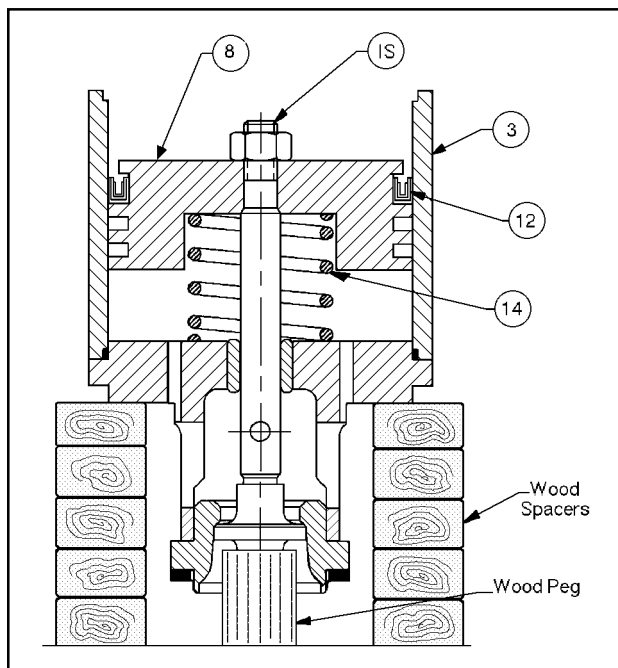

FIGURE 4
30. Place TFE ring gasket (13) onto upper side of bonnet (2) and onto shoulder.
31. Place a thin film of lubricant onto the cylinder (3) inside wall at the wear points of the piston seal (12). Wipe excess lubricant away with a clean, dry cloth.
32. Place cylinder (3) into a strap support and lift with an overhead hoist. Swing cylinder (3) over threaded end of plug-stem assembly (7) and lower into the shoulder of bonnet (2), taking care to protect ring gasket (13) of previous article 30., above. Align match marks and apply duct tape to hold cylinder (3) to bonnet (2).
33. Place piston (8) with recess for piston spring (14) face down on flat surface.
34. Position a small section of the seal (12) circumference around the top recess of the piston (8). Apply an equal amount of thumb pressure on opposing sides of the seal (12) as the seal (12) is pressed around and over the top of the piston (8) into the recess. **NOTE:** *Install seal (12) with opening of U-Cup facing upwards.*
35. Place piston spring (14) into recess of piston (8).
36. Rotate stem (7) until the tool of previous article 13., this subsection, can be inserted through hole of stem (7). Leave the tool in the hole.
37. Carefully slide piston (8) with captured piston spring (14) into cylinder (3). Insert a rod or similar tool into the center hole of the piston (8), and simultaneously lift and move into the cylinder (3) deeper. Using fingers of one hand, push the plug-stem assembly (7) together from the plug (7) end. Lift piston (8) onto threaded portion of plug-stem assembly (7) as far as possible, removing tool when necessary. Place hand into cylinder (3) and push the piston (8) until the piston spring (14) begins to compress.
38. Place temporary eyenut onto threaded end of plug-stem assembly (7). Finger-tighten eyenut until piston spring (14) is slightly under compression.
39. Place a rope, cable, etc., through the eyenut and rig for overhead lifting. Simultaneously, loosen the grip of the vise on the bonnet (2), lift the cylinder (3) with its hoist, and lift the partial internals subassembly (IS) with its hoist. Continue the lifting slowly until the internals subassembly (IS) is vertical. Release the strap support from the cylinder (3). Fully release the vise's grip.
40. Place a round wooden peg about 2" (50 mm) tall with flat ends, and small enough to fit within the seat ring (5) onto a flat work surface. Swing partial assembly of previous article above until centered over the peg. Lower partial assembly down onto peg until weight is resting on peg. Place spacers near outside diameter of bonnet (2) 180° across to stabilize partial assembly from tipping over. See Figure 4.